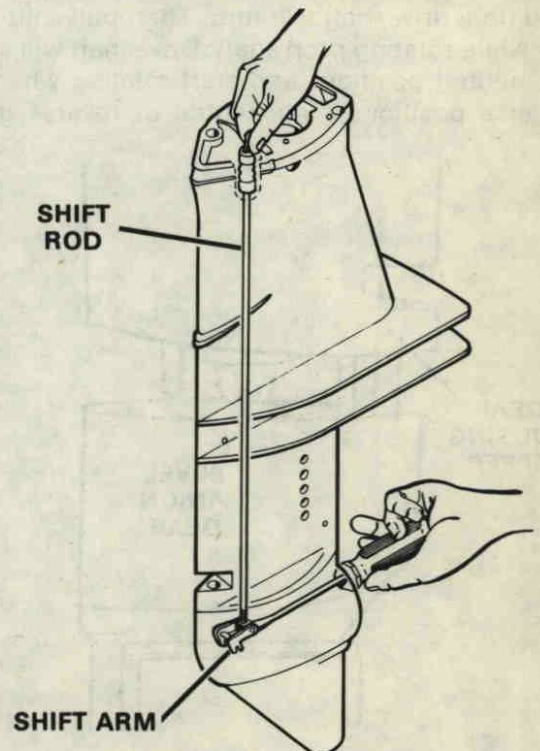

Figure 69. Assembling Shift Arm to Shift Rod.
E. Use a screwdriver to hold the swivel on the shift arm in a horizontal position and thread the shift rod into the swivel 2 turns. Figure 69.